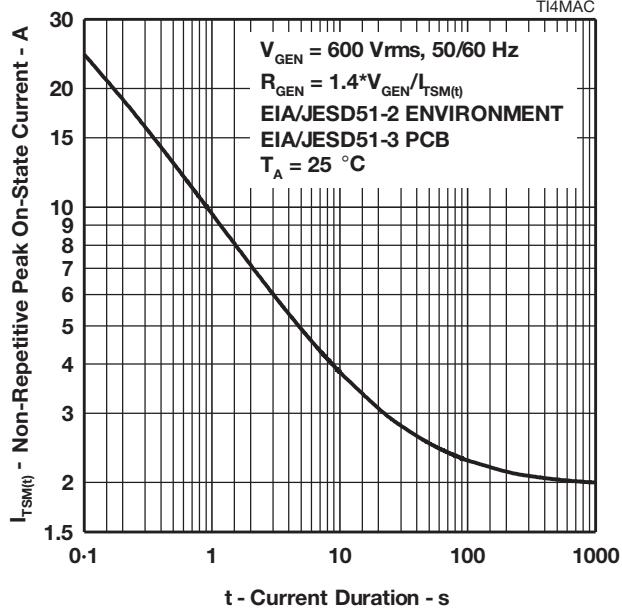

Figure 11.
10. EIA/JESD51-2 environment and EIA/JESD51-3 PCB with standard footprint dimensions connected with 5 A rated printed wiring track widths. See Figure 11 for the current ratings at other durations. Derate current values at $-0.61\%/\text{ }^\circ\text{C}$ for ambient temperatures above 25°C .